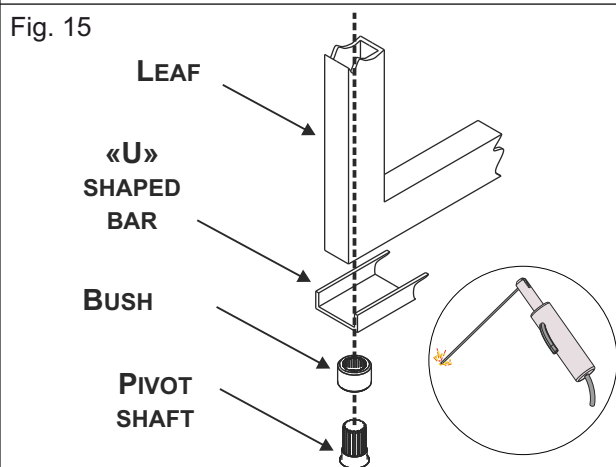

Fig. 15
4.3. Move the leaf back about 5° and weld the bush to the with «U» shaped iron bar (not supplied), and to the gate leaf (Fig. 15)